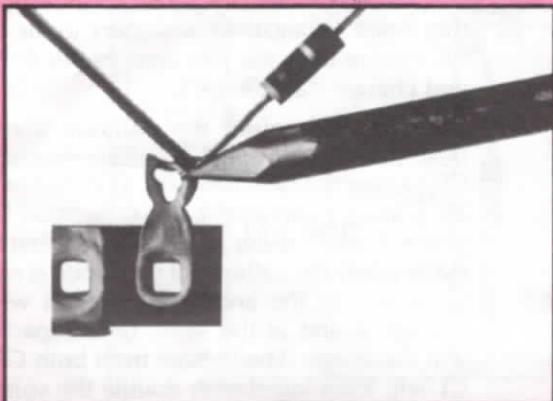

FIG. 7
8. While the connection is being heated, apply the solder. Do not apply the solder directly onto the tip of the iron. Remove the solder feed when enough molten solder has been applied to form a thin coating on all metal parts in the connection. (See Fig. 7.)